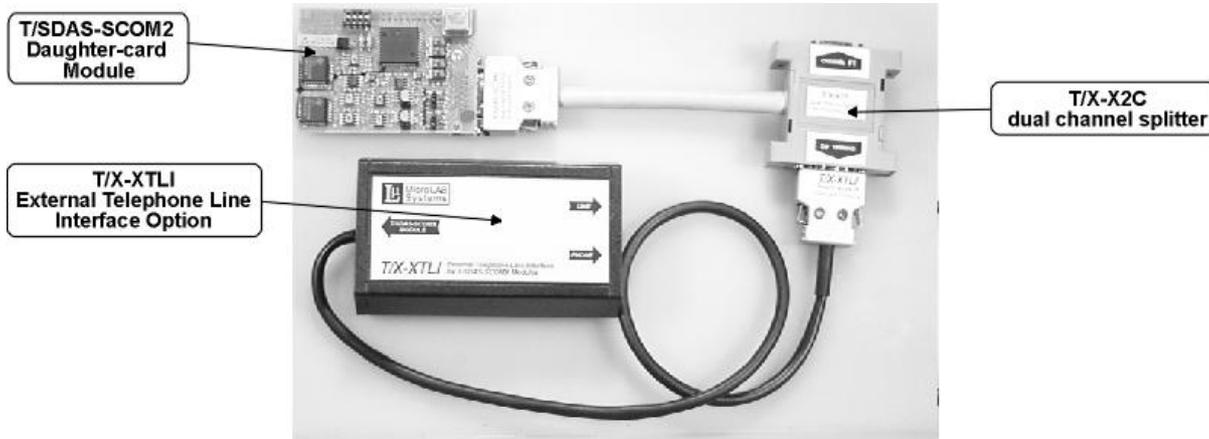

Fig. 1-7. T/SDAS-SCOM2 daughter-card module with external dual-channel splitter (T/X-X2C) and one external T/X-XTLI external telephone line interface option.
- up to two *T/X-XTLI* external telephone line interface options, which connect to *T/X-X2C* dual-channel splitter (see subsection below and fig.1-7), and allow direct connection to PSTN (public switch telephone network) subscriber lines
*T/X-XTLI* external telephone line interface option (fig.1-7) (also known as DAA (digital access arrangement) based passive telephone line interface) is designed as the end-user PSTN (public switched telephone network) equipment and offers direct access to available PSTN subscriber lines. In case appropriate DSP software is supplied, this converts *TORNADO* DSP system or controller with installed *T/SDAS-SCOM2* module and external *T/X-XTLI* telephone line interface into automatic answering machine, fax machine or modem with data transmission over PSTN telephone lines.